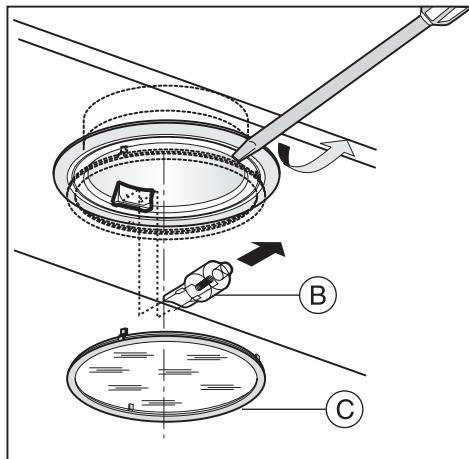

Fig.7
- **Replacing halogen light bulbs (Fig.7):**